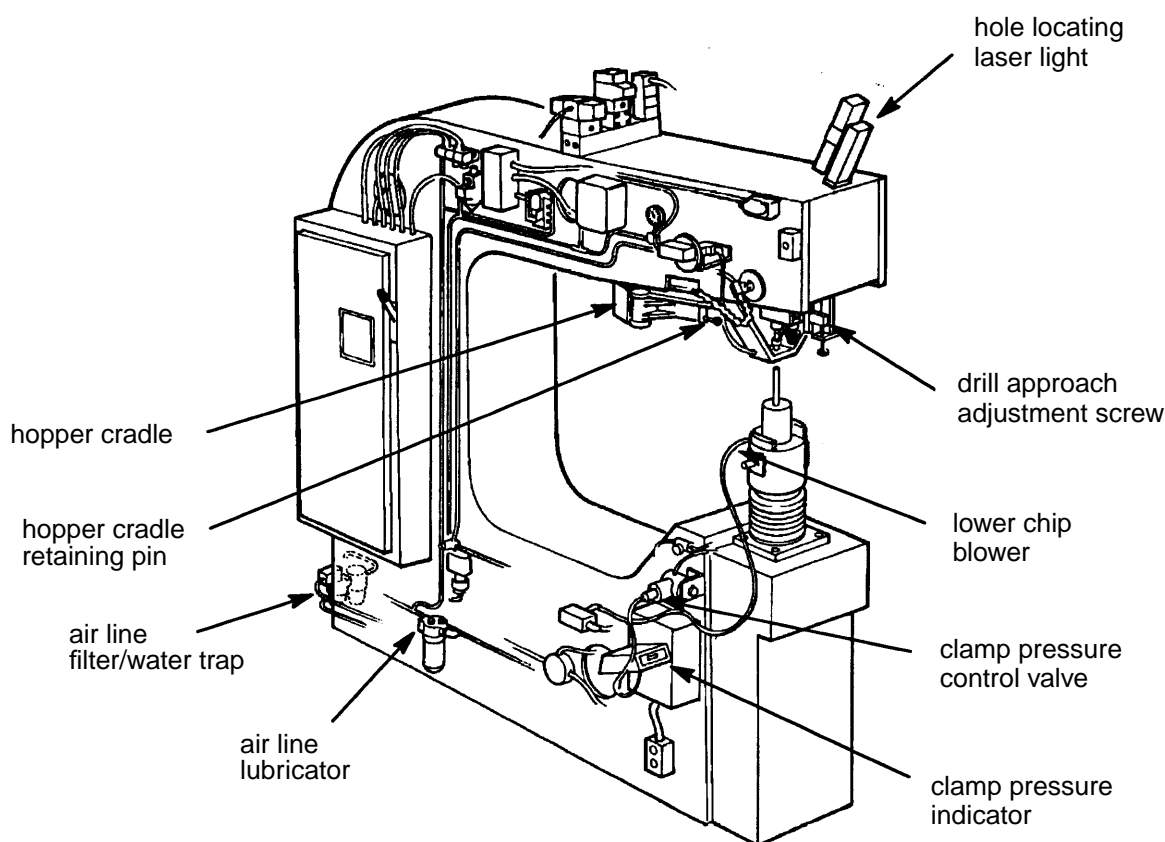
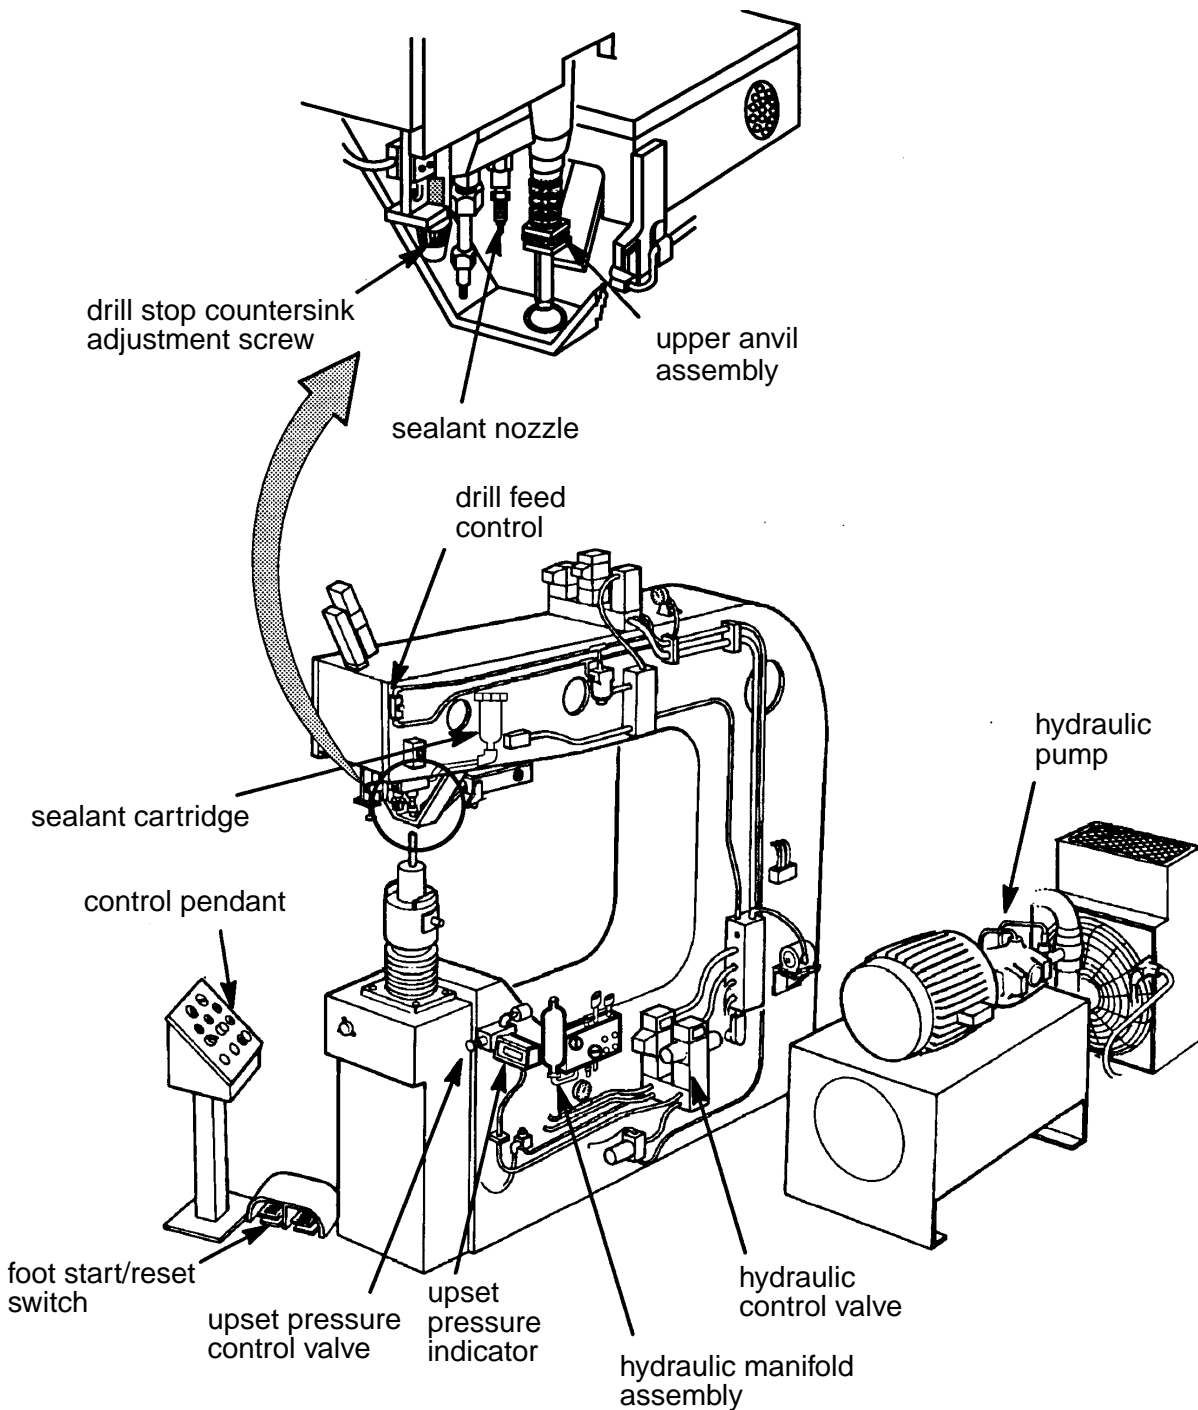

Figure 1 - Craco Automatic Drill Riveter - Left View
Figure 2 - Craco Automatic Drill Riveter - Right View
4.2.1 Automatic drill riveter (e.g., Craco model 3-0068) and associated equipment as listed below. Refer to Figure 1 and Figure 2 for a general description of the Craco automatic drill riveter. It is acceptable to use an alternative drill riveter and associated equipment in place of the Craco model 3-0068 and the equipment listed below provided that it is set up and operated according to the manufacturers instructions and the installed rivets or lockbolts meet all the requirements specified herein.